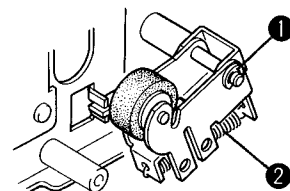

Fig. 11
2. Assemble the new pinch roller and lever as shown in Fig. 11 and slide the assembly onto the shaft. When doing this, fit part A into part B. Fasten the unit in place with the E-stop ring, then attach the spring.